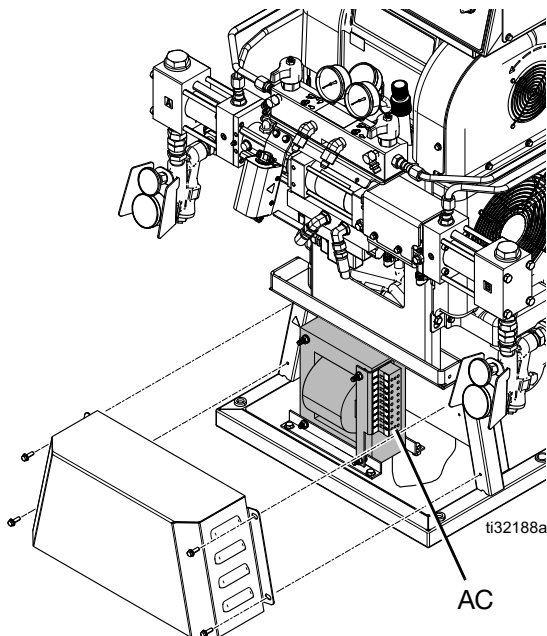

FIG. 13: Hose Transformer Cover
2. Remove the transformer cover. See FIG. 13.
4. Reinstall the transformer cover. See FIG. 13.